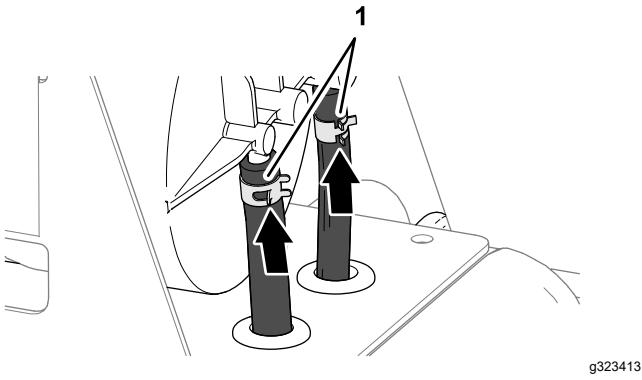

Figure 86
4. Secure the hoses to the fittings with the clamps (Figure 86)